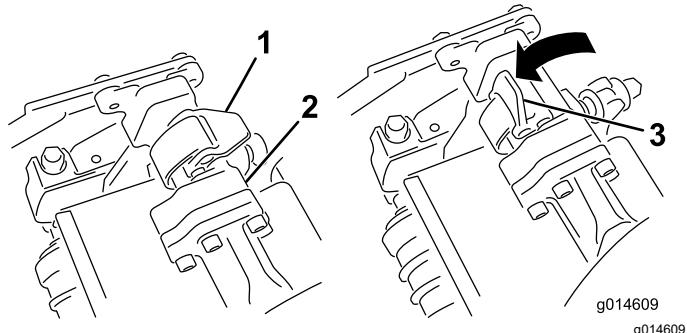
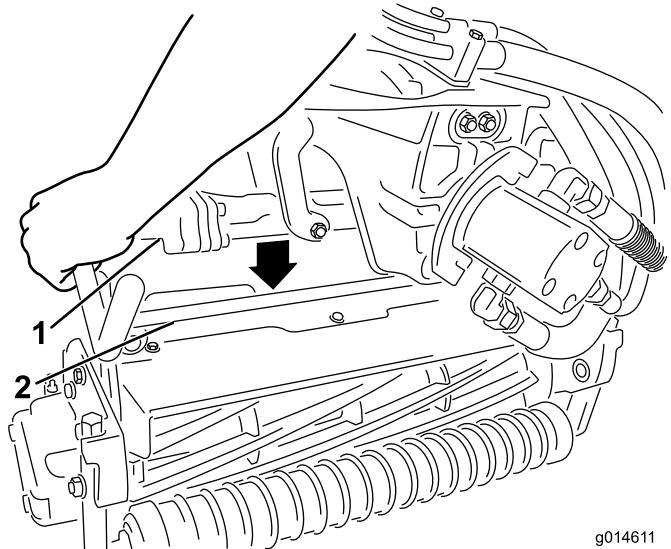

Figure 47
Figure 48
3. With the latches on the suspension-arm bar pointing up (i.e., open) (Figure 47), push the suspension arm down so that the bar fits over the bar across the top of the cutting unit (Figure 48).
4. Close the latches down and around the cutting-unit bar and lock them in place (Figure 47).
4. Open the latches on the suspension-arm bar of the cutting unit you are removing (Figure 47).